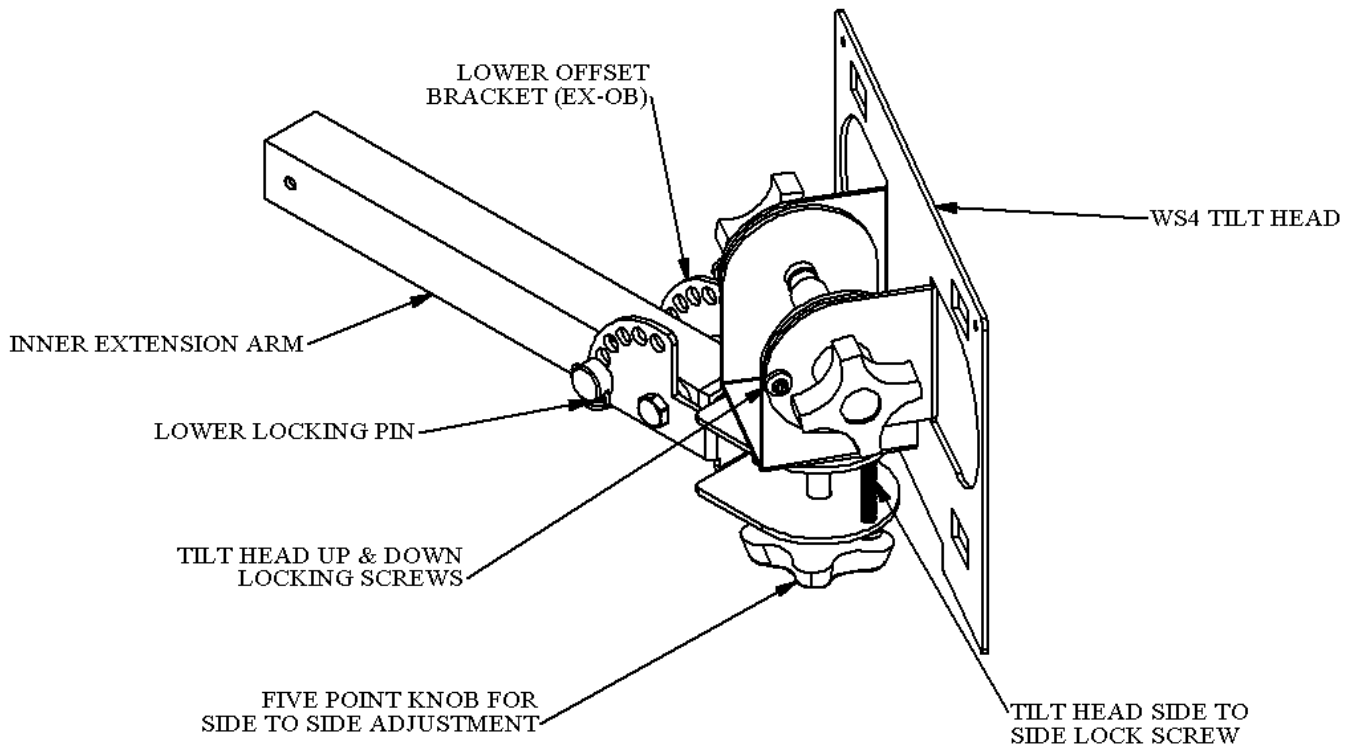

Figure 6 - UVHM-EX and WS4 tilt head
1. Unscrew the large three pointed knob and withdraw it completely from the top of the Upper OB bracket (See Figure6).
1. Slide the upper OB into the EX bracket with the P1 plate and align the center holes of both brackets (See Figure6).